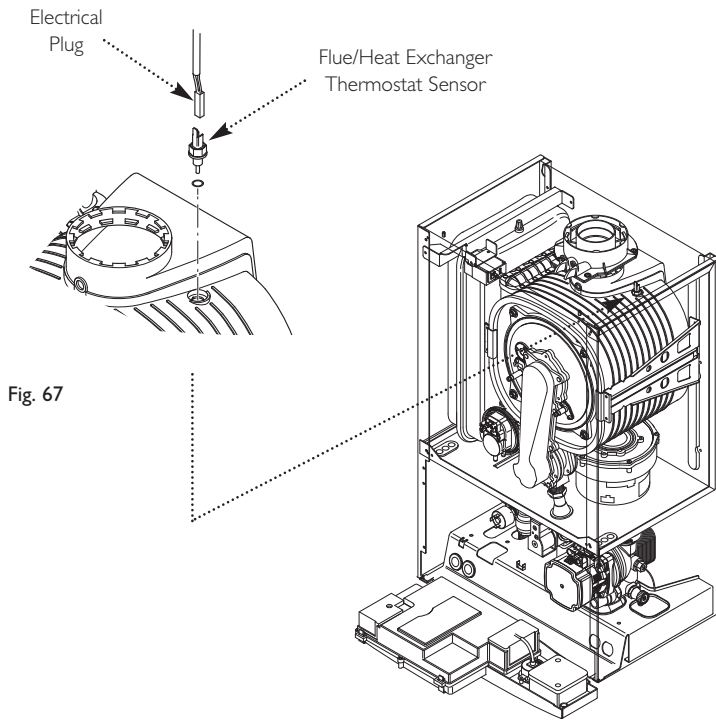

Fig. 67
13.9 Flue/Heat Exchanger Thermostat Sensor (Fig. 67)